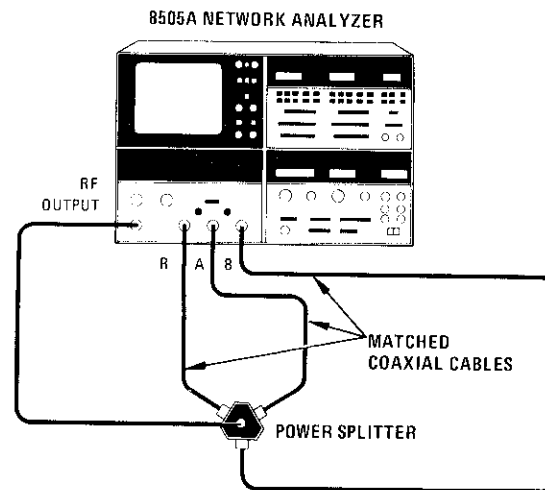

Figure A4-13. Phase Reference Offset Test Setup
- b. Connect equipment as shown in Figure A4-13.